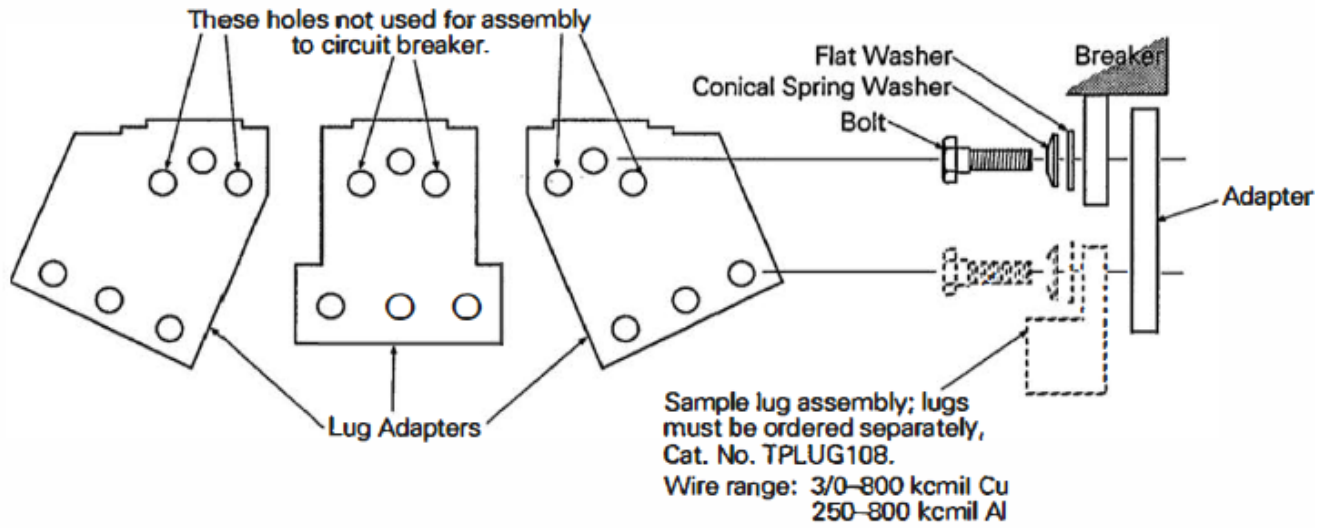

Figure 6. Typical assembly of lug adapters, catalog number TPLUGAOB, to 800 A frame circuit breaker.
- Figure 6 for catalog number TPLUGA08 to an 800 A frame breaker.